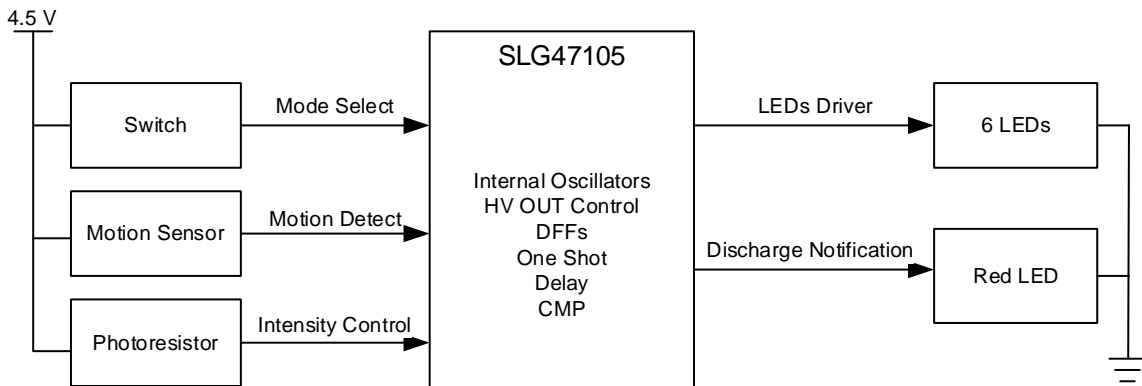

Figure 1 Block Diagram
- Figure 1 Block Diagram3
The Block Diagram is shown in Figure 1.